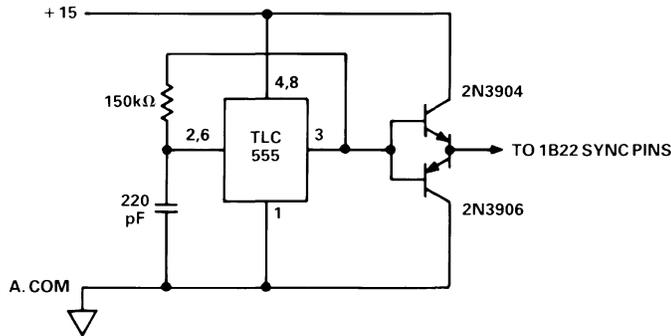

Figure 5. Multiple 1B22s' Synchronization
**Synchronizing Multiple 1B22s:** In applications where multiple 1B22s are used in close proximity, radiated individual oscillator frequencies may cause “beat frequency” related output errors. These errors can be eliminated by driving the SYNC pins of all the units with a 40 kHz clock circuit at 50% duty cycle (Figure 5). The SYNC input typically has an input impedance of 150 kΩ||180 pF.